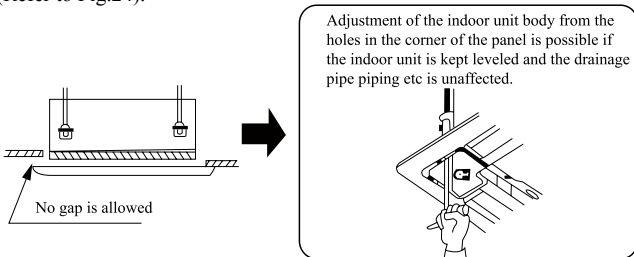

Fig.24
2. If gap is still left between the ceiling and the panel after screwing the screws, readjust the height of the indoor unit body (Refer to Fig.24).